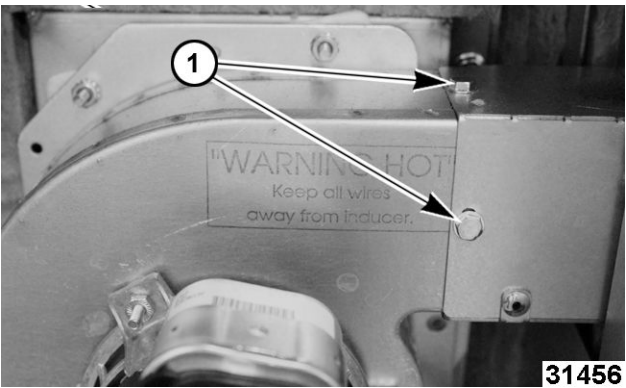

Fig. 99
- 7. Remove gas flue screws (1, Fig. 99).